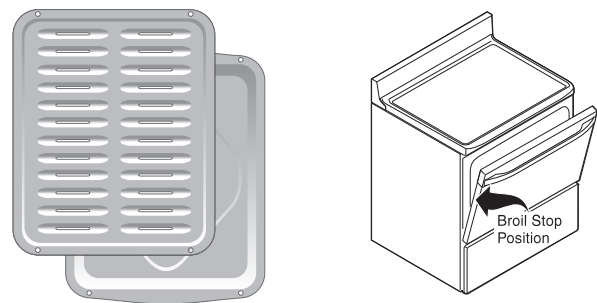

Figure 18: Broil pan and insert (L); Door in broil stop position (R)
6. Place the broiler pan and insert on the oven rack. Broil with oven door open to the broil stop position (Figure 18).